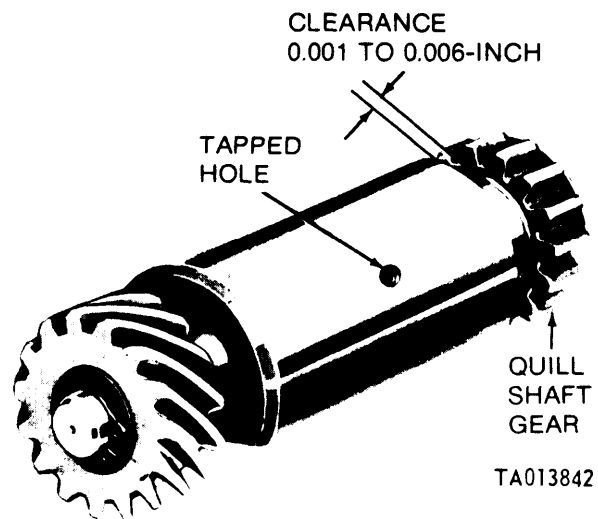

Figure 3-104. Inspection of quill shaft assembly.
a. Refer to figure 3-104. Check end play clearance between quill shaft gear and shaft spacer. Clearance should be 0.001 to 0.006 inches. Inspect gears for chipped, cracked or broken gear teeth.